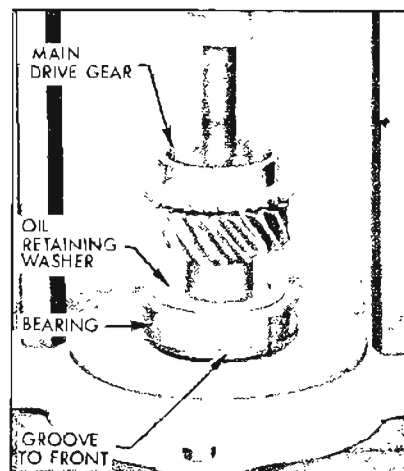

Figure 4-101—Installing Front Bearing
20. Press bearing onto main drive gear (snap ring groove to front). See Figure 4-101.